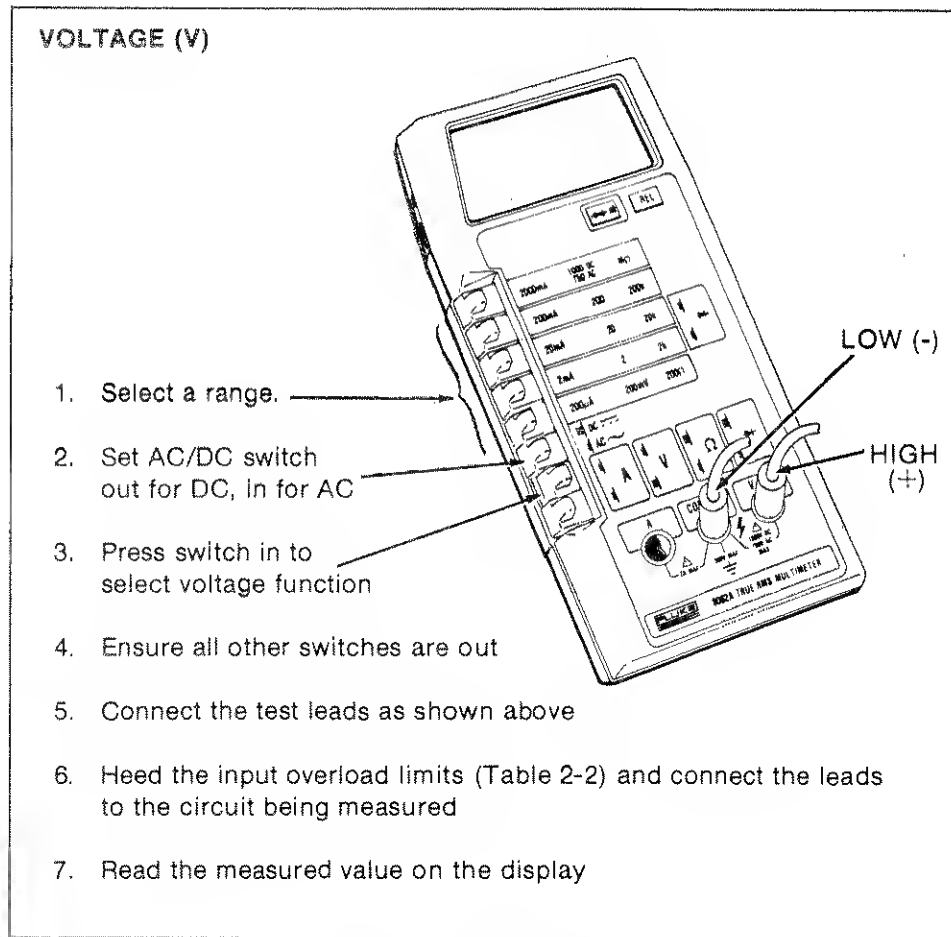

Figure 2-6. Voltage Operation
Selection of the ac or dc voltage (V) functions is described in Figure 2-6. The 8062A offers five ac and five dc voltage ranges: 200 mV, 2V, 20V, 200V, and 750V ac/1000V dc. All ranges present a 10 M Ω input impedance, which is shunted by <100 pF.